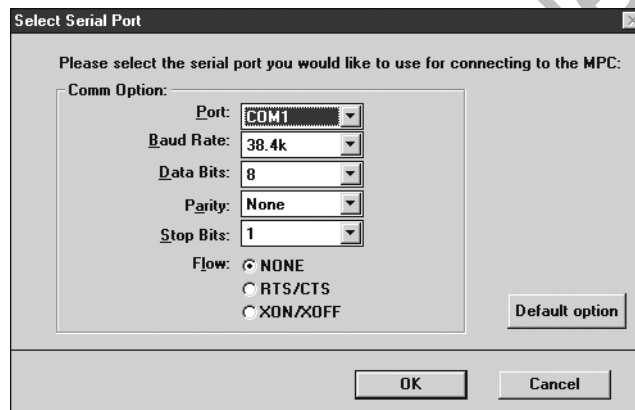

Figure 5.44 Sample Serial (Com) Port Configuration screen
- 8 Be sure the settings on this screen match the settings on the Virtual Terminal software program (Figure 5.44, page 71).
The **Flow** specification (pictured in Figure 5.44, on page 71) is the same as the **Handshake** specification (pictured on the Pro-Link GRAPHIQ™ screen).